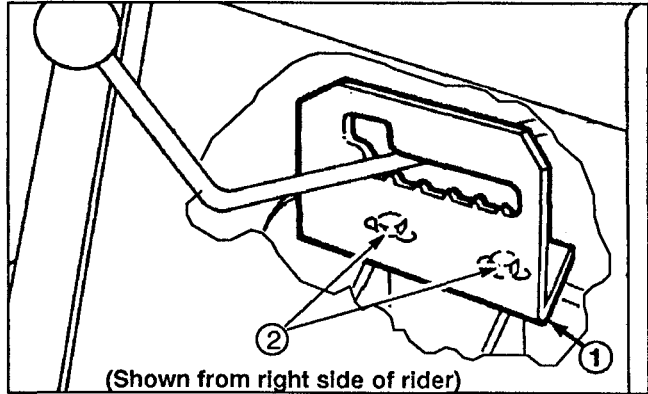

Figure 37
2. Loosen (2) capscrews mounting gear shift guide to transmission (Fig. 37).